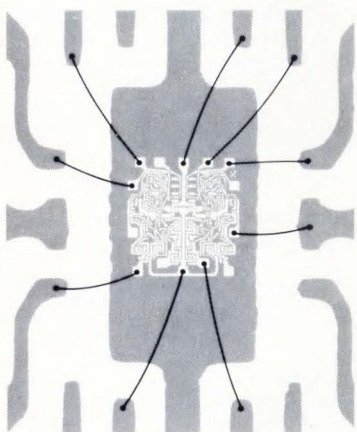

Fig. 1
Magnetic domains are tiny magnetic spots (**Fig. 1**) generated within a channel of magnetic material and
Fig. 1— a. How a Magnetic Domain is Formed (nucleate). Shown is a portion of the substrate, start of a channel, nucleate conductor, and one magnetic domain. The magnetic film was formed on the substrate in an ac field so that all magnetic particles are oriented in one axis, thus establishing an easy axis for further magnetization. Permanent background magnetization (M) is established prior to final device test by applying a high magnetization field pulse (50 Oe) to the entire substrate. A combination of high coercive forces and lower strength fields for propagation and erase (14 Oe) prevents any further changes in particle orientation outside the channel. During the nucleate cycle, a field pulse is applied to the entire substrate along with a slightly stronger pulse to the nucleate conductor. The field pulse is not of sufficient strength to overcome low coercive forces within the channel and nucleate a domain, but it is strong enough to
Fig. 1.— **Interlocking mechanism** designed into the gold-plated Kovar lead frame adds strength to the IC's lead bonds by preventing lead movement during any device handling operation.
In evaluating plastic packages at National Semiconductor, the standard gold-plated Kovar lead frame with individual locking mechanisms was used (Fig. 1). As an added measure of protection, two types of